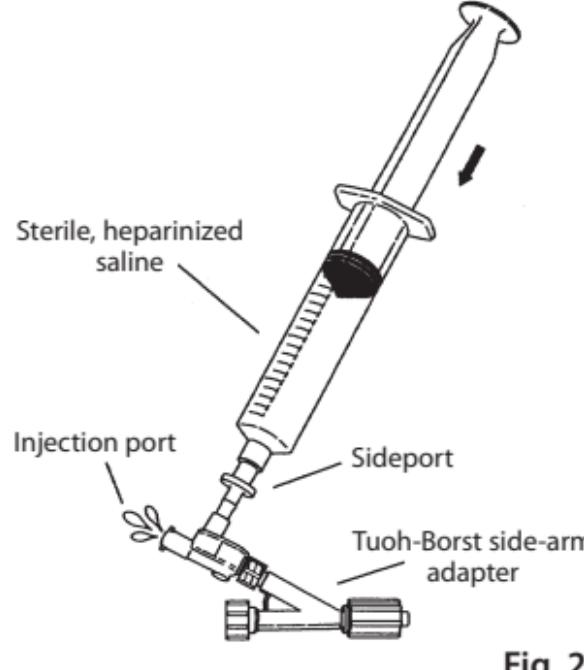

Fig. 2
4. Connect the dual check valve to the clear Tuohy-Borst adapter. The Tuohy-Borst valve should be closed completely. Connect a 20 mL heparinized saline-filled syringe to the sideport of the dual check valve adapter and slowly purge air from the injection port. (**Fig. 2**)